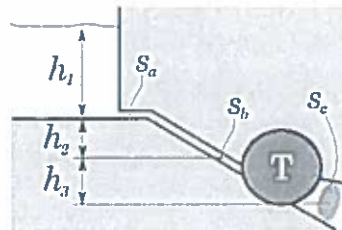

Figure Q5.2- A micro hydraulic generation system.
- b) A micro hydraulic generation system consists of an upper water reservoir that feeds a penstock that goes to a turbine that generates power (see Figure Q5.2). The characteristics of the system and its operating point are summarised in Table Q5.1. Answer the questions listed below.